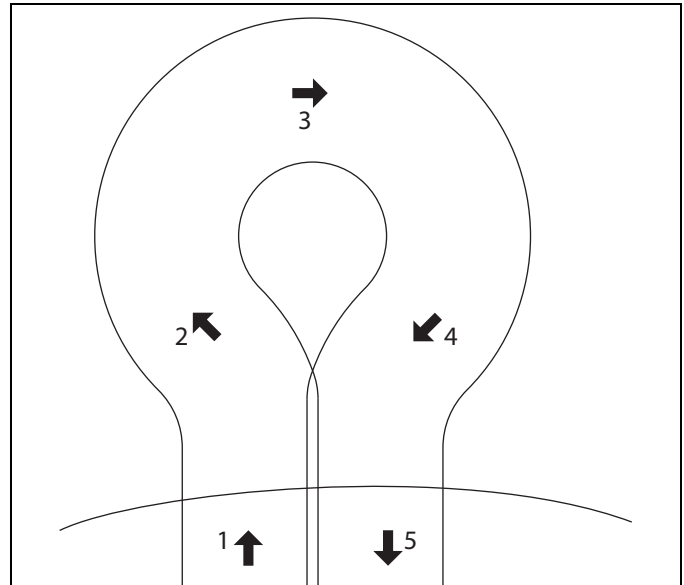

Figure 4C
- e. To turn to the right, start by turning mower slightly to the left **(2)**. When the mower has moved approximately 1/2 its own width to the left, swing it around quickly to the right **(3 and 4)**, guiding the mower with your right hand. This method makes it possible to turn around quickly with very few steps. **[Figure 4C]**.